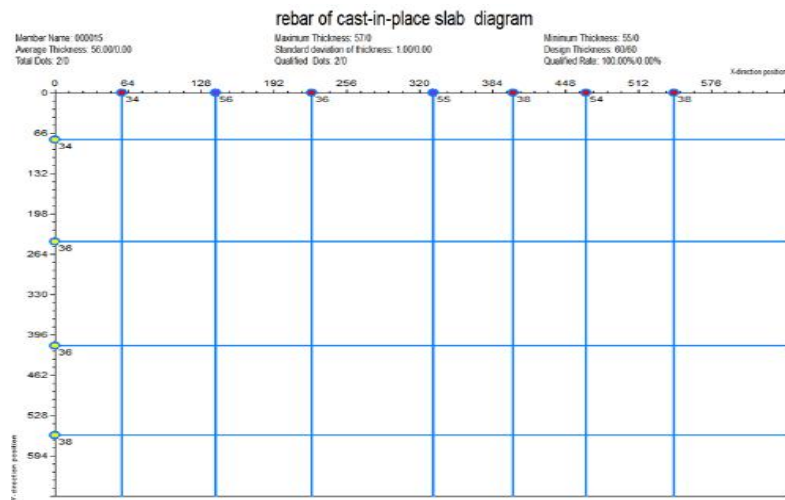

Figure 4.14
(3) Grid scan: when users view an object of grid scan, the interface shown in Figure 4.14 is displayed.